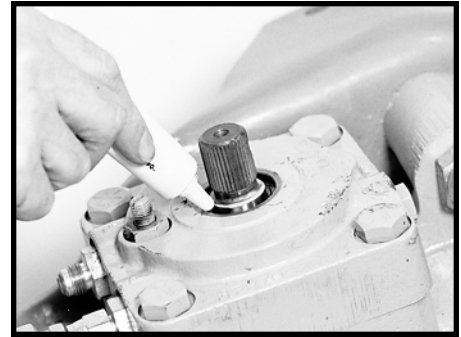

Figure 30
2.8 Pack the area around the worm shaft/input shaft (16) and dirt and water seal (4) cavity with high temperature industrial grease per Ross specification 045231, *Mobil Temp 1 or 2 or equivalent. SEE FIGURE 30.